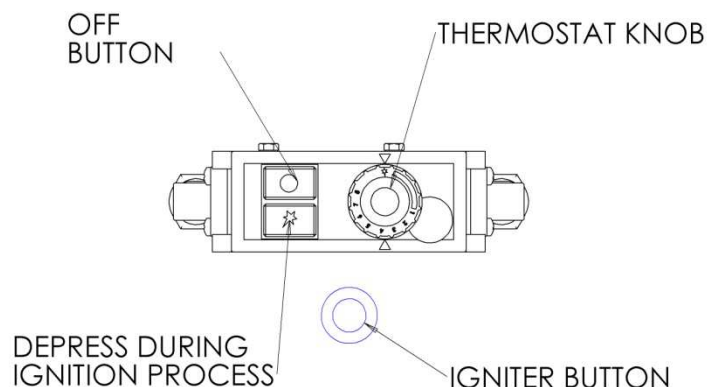

figure 2 - Gas Control Valve
- c) Refer to Figure 2, and turn the thermostat knob clockwise to the ignition position